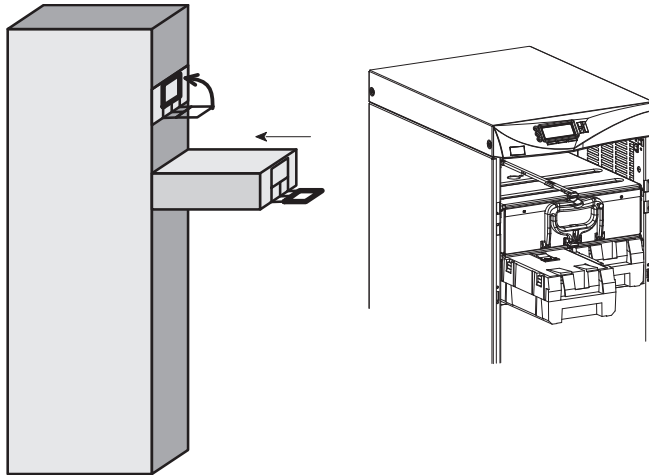

Figure 48. Inserting the Modules
2. Insert the battery modules into the cabinet. Push each module firmly until the front latch snaps to secure the battery module (see Figure 48). Repeat for each additional battery module.
- Lower the front slightly and lift the rear edge over the safety stop on the center support rail. Keep the module handle extended until the module is fully inserted (see Figure 48).